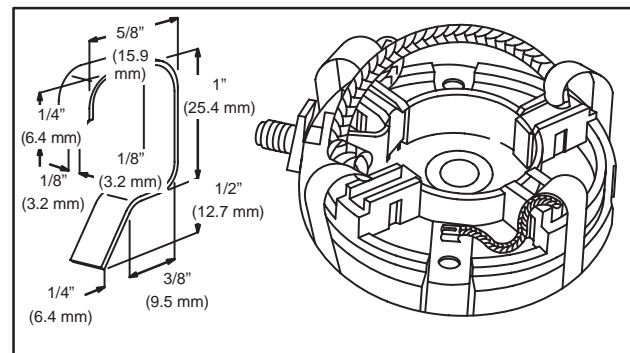
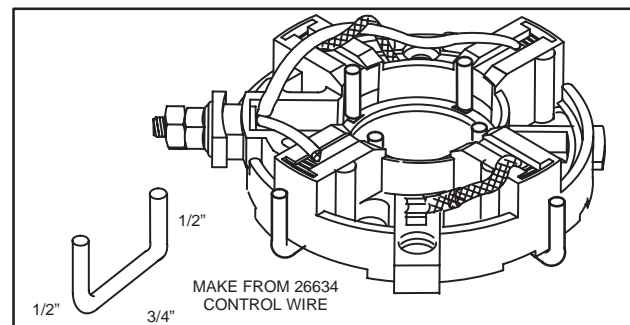

Fig. 32 – Compression Spring Type Brush Holders
Fig. 33 – Compression Spring Type Brush Holders
On end caps with compression type springs, insert brushes in their proper holders, Fig. 32 and Fig. 33.
4. Brush retainers can be made from scrap pieces of rewind starter springs as shown in Fig. 32 or Part No. 26634 control wire or similar material, Fig. 33.